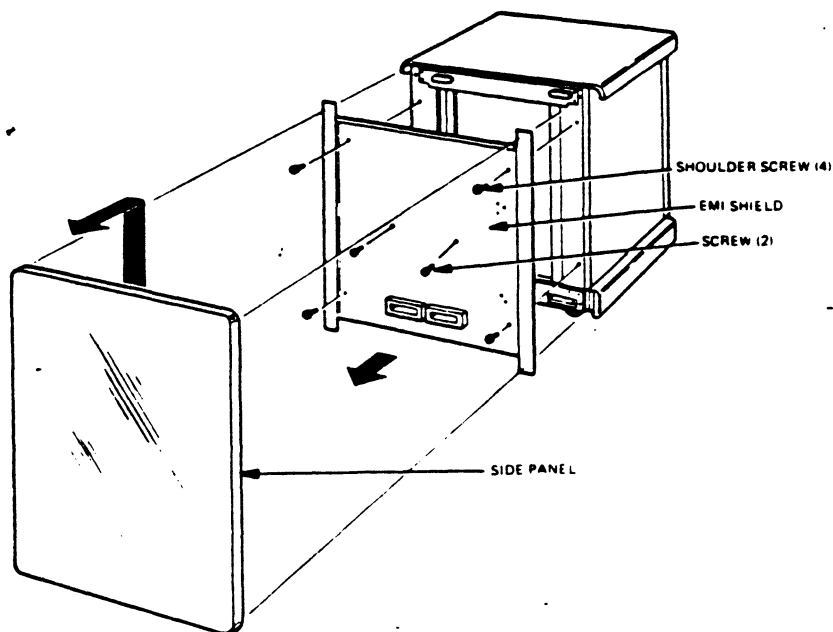

FIGURE 5-30 SIDE PANEL REMOVAL
6. Remove the right side panel. See Figure 5-30.